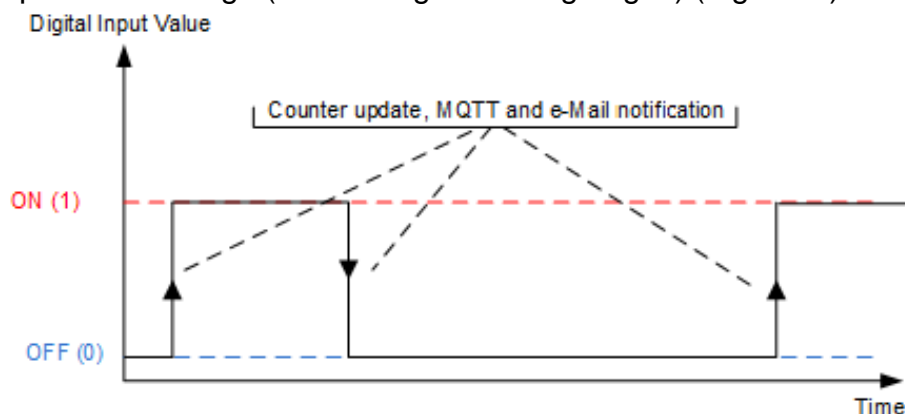

Figure 7.14. Counter update and notifications when **Edge** is set to "2 (Both)"
- **2 (Both)** – Counter update and notifications take place on every digital input state change (both falling and rising edges) (Fig. 7.14).